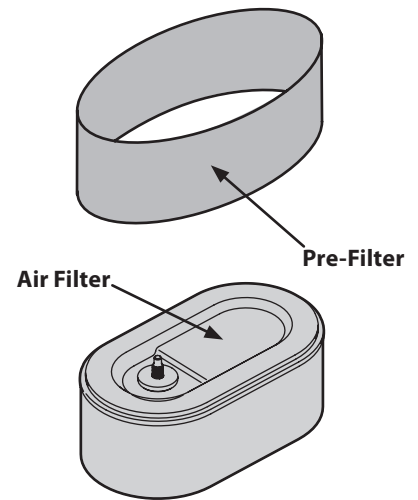

Figure 6-6
5. Remove the foam pre-filter from around the paper air filter. See Figure 6-6. Replace paper element when dirty or damaged. Clean foam element or replace when damaged.